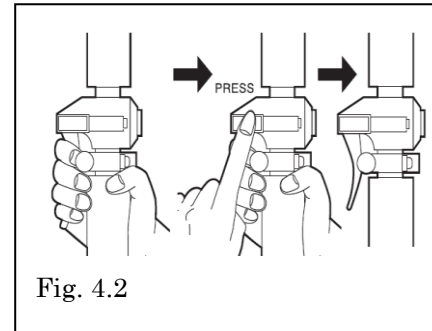

Fig. 4.2
5. Pull the start lever and press the lock button (Figure 4-2). By pressing the lock button, throttle is locked at half position. To unlock it, pull the lever again.